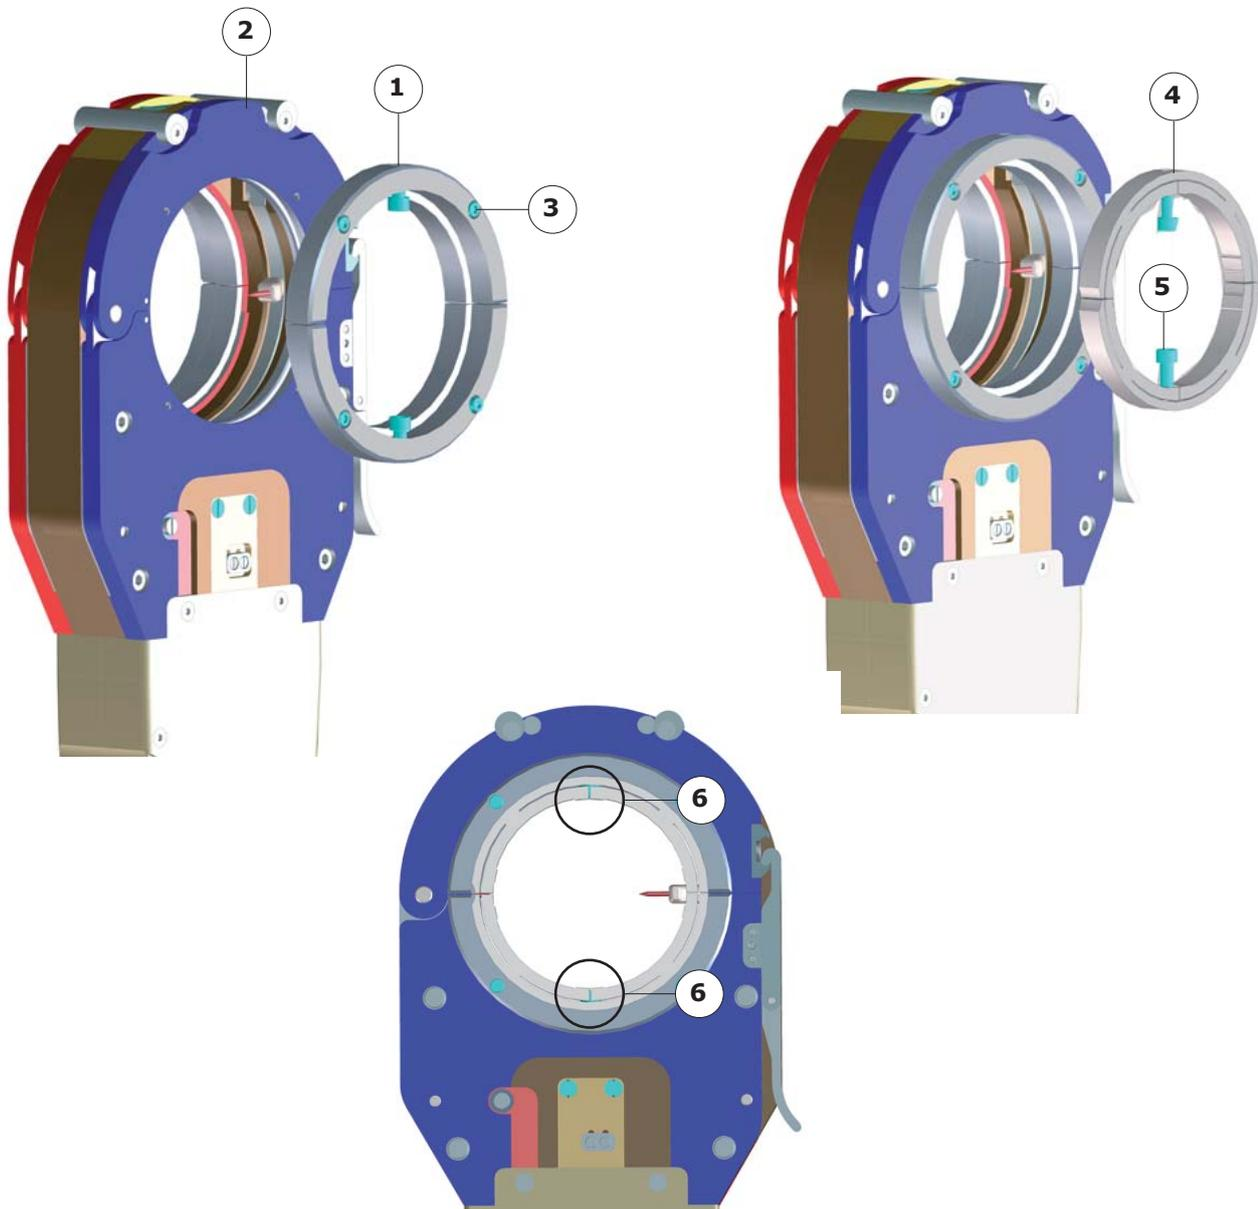
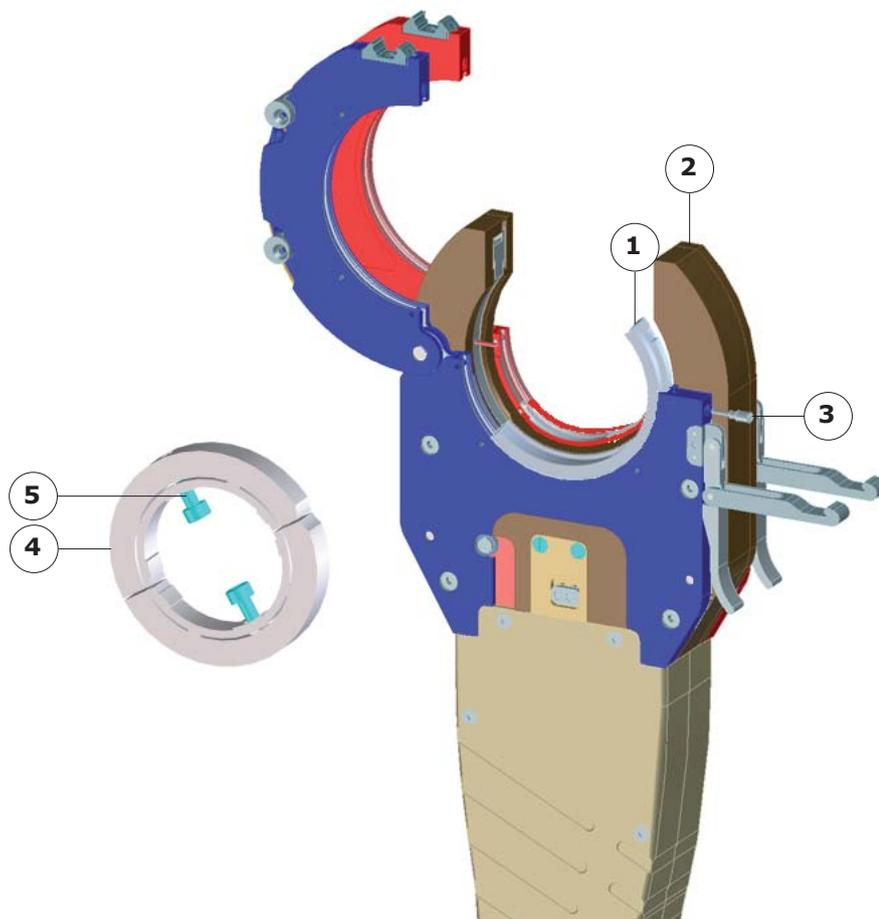

Fig.5.15 - Installing the adapter kits on the heads MW 65-3 and 115-3
Fig.5.16 - Installing the adapter kit on the head MW 40-3
- Place the adapter kit (Fig.5.15 - item 1) on the head (Fig.5.15 - Rep. 2).
- Set the head to the 4 screws (Fig.5.15 - Rep.3).
- Place the shell TCI (Fig.5.15 - Rep.4) on the adapter kit, set the 2 screws (Fig.5.15 - Rep.5).
Screws (Fig.5.15 - Rep.5) must absolutely not exceed the shell (Fig.5.15 - Rep.6).
- Place the first element of the adapter kit (Fig.5.16 - item 1) on the head (Fig.5.16 - Rep. 2).
- Lock the element into the screw (Fig.5.16 - Rep.3).
- Place the shell TCI (Fig.5.16 - Rep.4) on the adapter kit, set the 2 screws (Fig.5.16 - Rep.5).
Screws (Fig.5.16 - Rep.5) must absolutely not exceed the shell (Fig.5.15 - Rep.6).